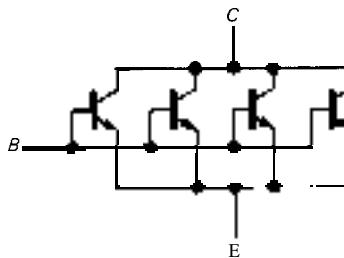

Figure 3.65. A large-junction-area transistor can be thought of as many paralleled small-area transistors.
**High impedance, thermal stability.** The two important advantages of the power MOSFET, compared with the bipolar power transistor, are its high input impedance (but watch out for high input capacitance, particularly with high-current devices; see below) and its complete absence of thermal runaway and second breakdown. This latter effect is very important in power circuits and is worth understanding: The large junction area of a power transistor (whether BJT or FET) can be thought of as a large number of small junctions in parallel (Fig. 3.65), all with the same applied voltages. In the case of a bipolar power transistor, the positive temperature coefficient of collector current at fixed  $V_{BE}$  (approximately  $+9\%$ /°C., see Section 2.10) means that a local hot spot in the junction will have a higher current density, thus producing additional heating. At sufficiently high  $V_{CE}$  and  $I_C$ , this "current hogging" can cause local thermal runaway, known as *second breakdown*. As a result, bipolar power transistors are limited to a "safe operating area" (on a plot of collector current versus collector voltage) smaller than that allowed by transistor power dissipation alone (we'll see more of this in Chapter 6). The important point here is that the *negative* temperature coefficient of MOS drain current (Fig. 3.13) prevents